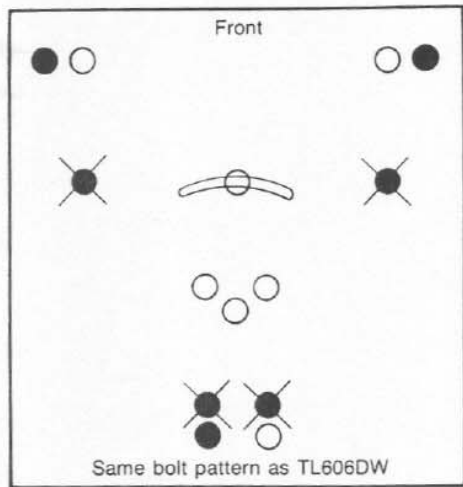

FIGURE 2
1. Remove indicated bolts [] from cabinet. (Fig. 2)